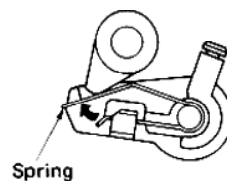

Fig. 11
2. Remove the brake cam spring (Fig. 11), pressing it in the direction of the arrow.